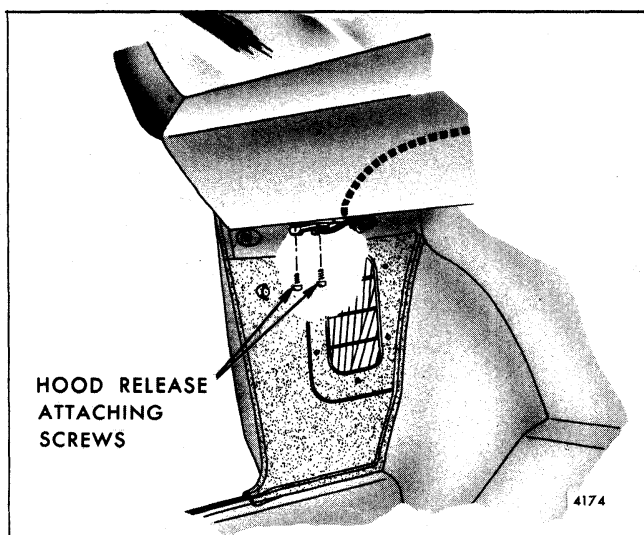

Fig. 4-23-Hood Latch Release Assembly Attachment - "H" Body (Less "07, 27 Style)
1. Under instrument panel, remove screws securing hood latch release to mounting bracket. Disengage release cable grommet from opening in shroud side panel (Fig. 4-23).
pulling cable through plenum chamber and through hole in side shroud panel (Fig. 4-23).